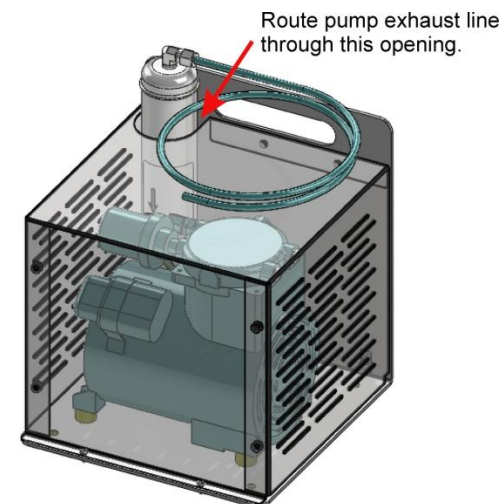

Figure 1. Pump Exhaust Line Route
3. Route an exhaust line from pump exhaust port through the opening next to the scrubber (refer to Figure 1), and vent according to the instrument’s operation manual.